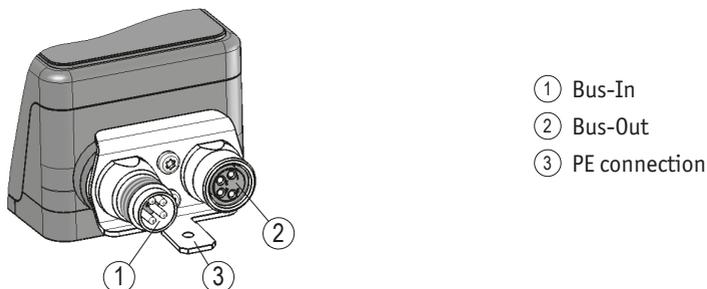
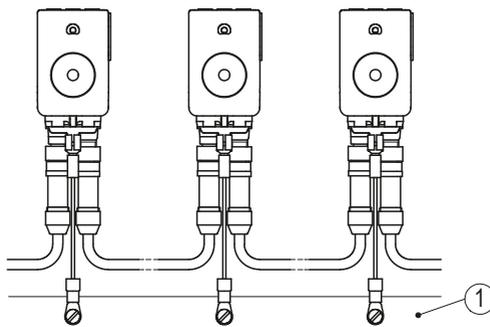

Fig. 4: Pin assignment
Fig. 5: Ground bar
Potentially live contacts must be protected against touch. Therefore, take care that the remote display is connected via the "Bus-In" ① connection (see Fig. 4). This ensures protection of the live contacts on "Bus-Out" ② by means of the jack (for the IP type of protection, please refer to chapter 4.1).
- ① Bus-In: Pin 4 pin M8 (see Fig. 4).
- ② Bus-Out: Female 4 pin M8 (see Fig. 4).
For protection against interference, the screens of the signal lines and the power line must be connected on both sides. Potential differences cause inadmissible currents on the screen. Install the PE connection ③ onto the protective earth conductor potential between the plug connectors (see Fig. 4). Use 6.3 mm flat connectors with short strands $2.5 \dots 4 \text{ mm}^2$ (not in the scope of delivery). For multiple remote displays we recommend connecting the earthing to a ground bar ① (see Fig. 5).